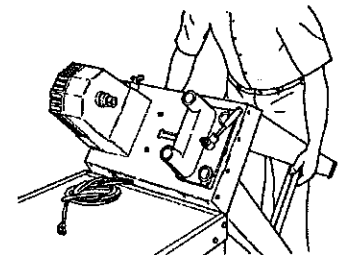

Fig.A-15
19. Carefully place the Power Station upright, as in Fig.A-15.